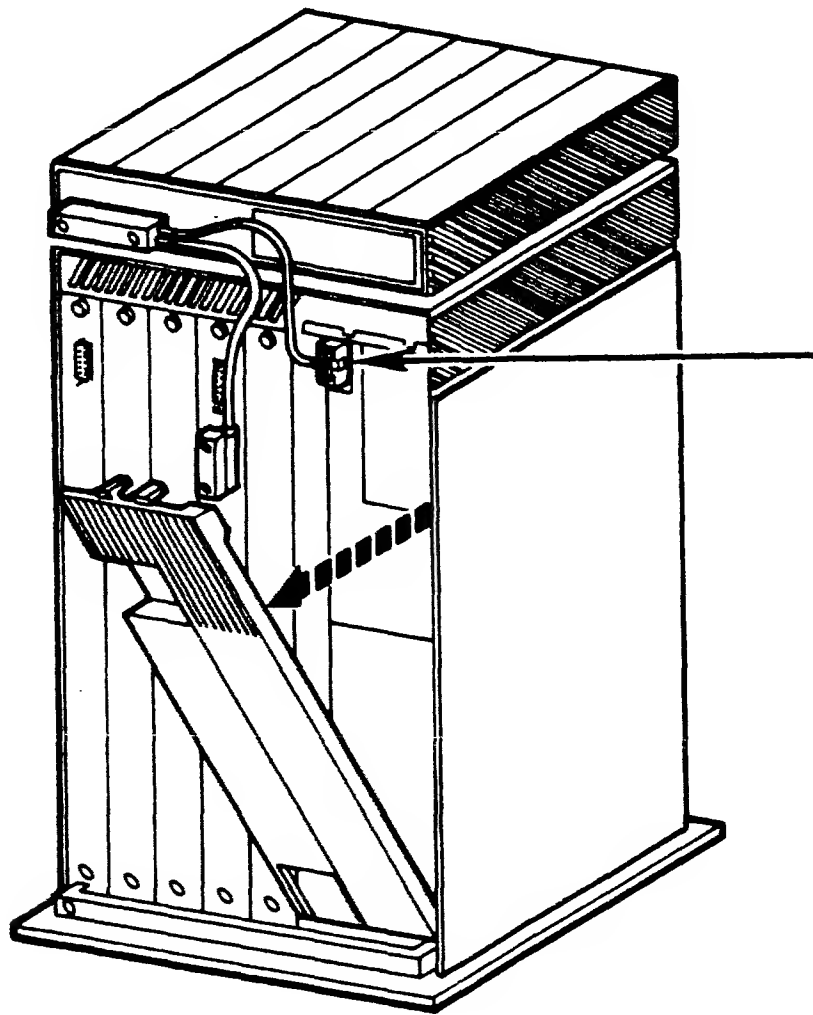

Figure 2-22. Connecting Cable to Processor
6. Connect the remaining end of floppy disk drive cable to the topmost socket behind the rear cover of the processor unit, as shown in Figure 2-22.